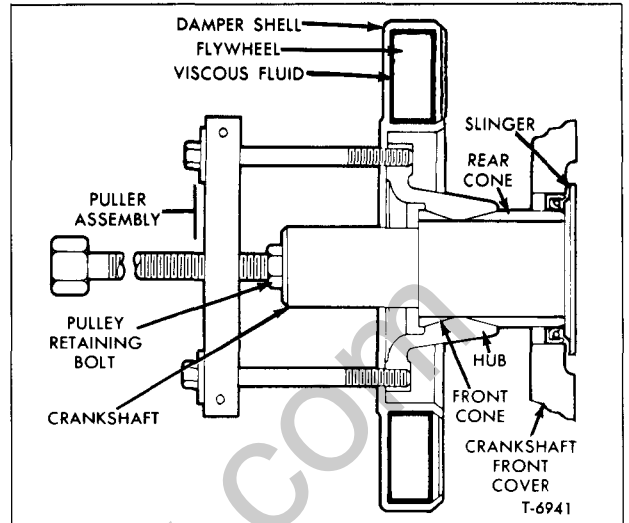

Figure 27—Use of Puller to Remove Damper Hub From Crankshaft
and located on hub by dowel pins. When fan is mounted on end of crankshaft remove fan and hub to allow damper removal. Figure 27 shows use of tool for removing damper hub.
4. Remove vibration damper and hub using tool (J-4794-01) as shown in figure 27. Install pulley retaining bolt in threaded hole in crankshaft to provide a bearing point for puller screw as shown. Front cone will be removed with damper hub.